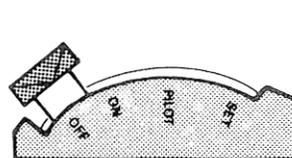

FIGURE 1
The red stripe should now be closer to the valve. (See figure 1.) Re-install black plastic thread protector.
- Move selector arm to the "off" position. (See figure 1.)